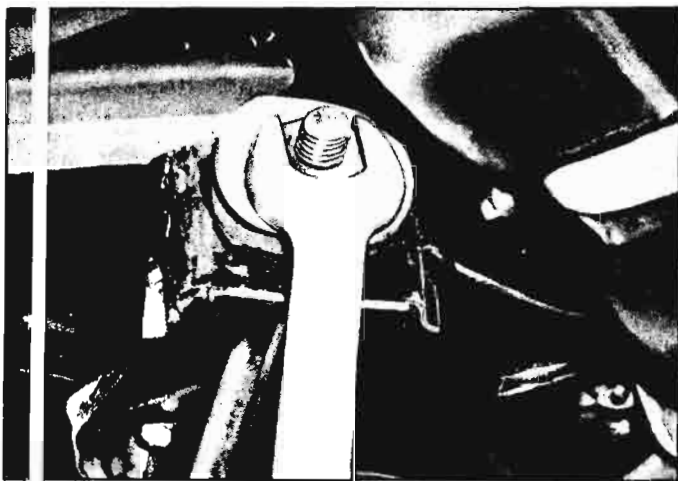

Fig. 3-21—Removing Strut Rod Nut
2. Remove the nut, washer, spacer and grommet from rear end of strut rod (fig. 3-21).